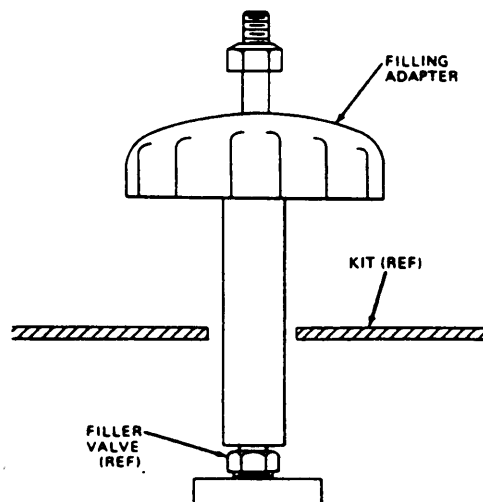

Figure 7-9.—Filling adapter.
2. Remove the oxygen filler valve cap and connect a filling adapter to the filler valve (fig. 7-9). If the emergency oxygen system is